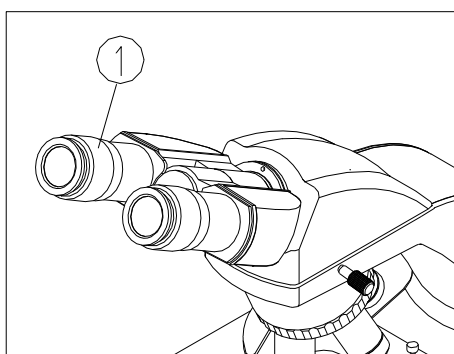

Fig. 22
3.2.7 Adjusting the Dioptre (Fig.22)